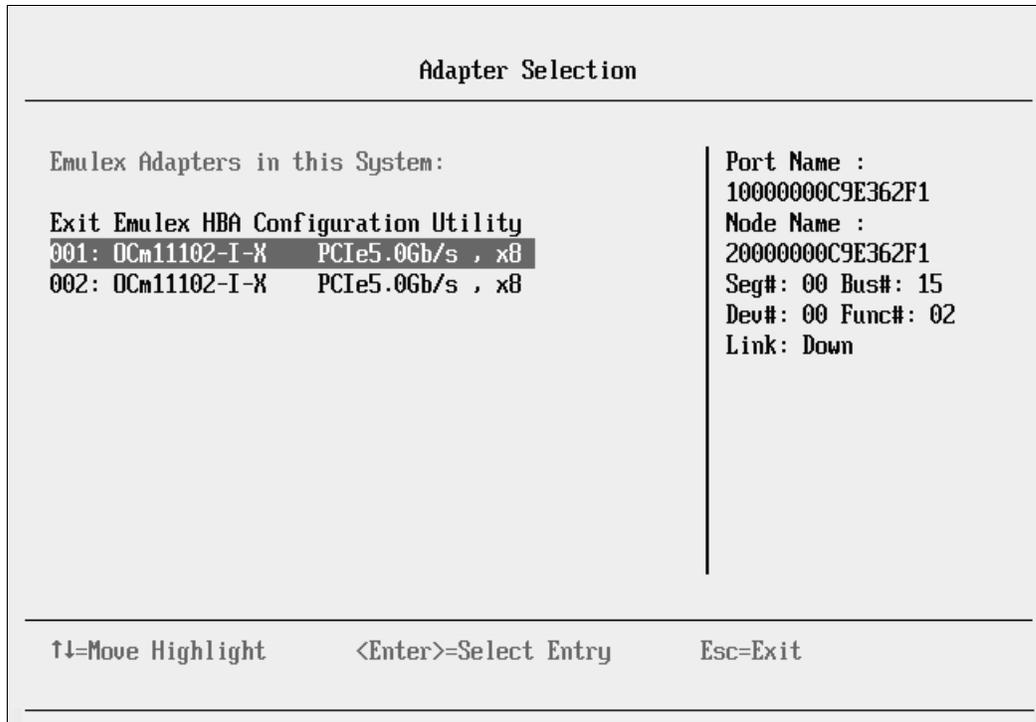

Figure 10-62 Adapter Selection panel
5. In the Adapter Selection panel (Figure 10-62), select **001** for port one.